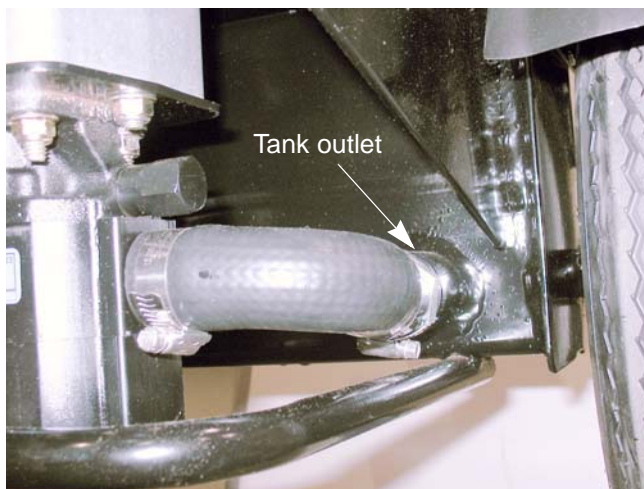

Figure 3.3
- The outlet on the engine side of the tank feeds hydraulic fluid directly to the pump. See Figure 3.3.